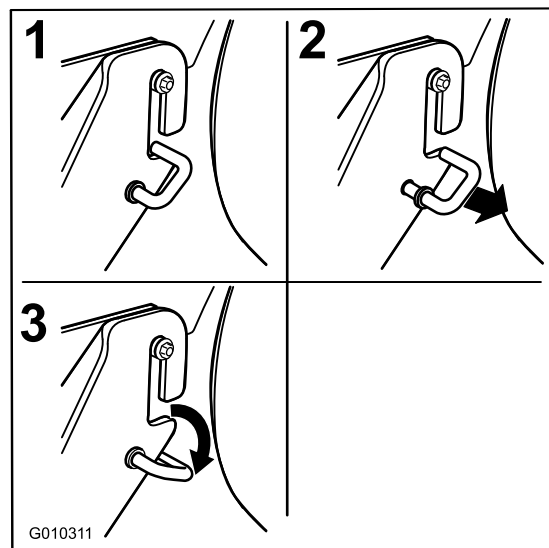

Figure 68
1. Move the spring loaded J-hooks out of the slot in the rear hanger brackets on both sides of the deck (Figure 68).
6. Attach the front support on the mower deck to the front deck hangers and secure them with a washer and hairpin cotter (Figure 68).